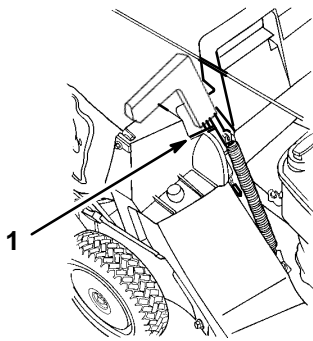

Figure 37
5. Open the discharge door by pulling the discharge door handle forward until the pin clears the ramp on the bag door and moving the handle rearward until the pin locks in the bag notch (Fig. 37).
8. Pull the discharge door handle up and out of the bag notch (Fig. 37) and pull it forward until it engages the catch (Fig. 36).